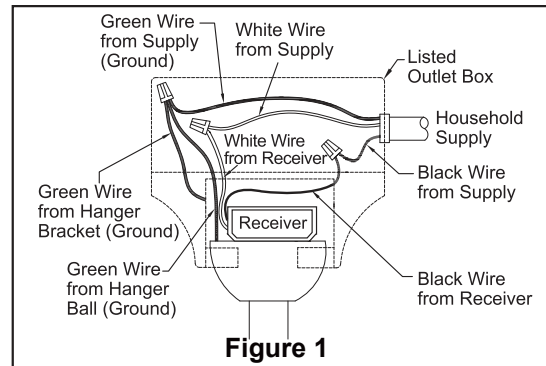

Figure 1
- ☐ After all connections have been made, carefully push the connected wires into the outlet box. Ensure that the white and green (ground) wires are positioned on one side of the box and the black (hot) wire is positioned on the opposite side, as shown in Figure 1
- 3. Tighten the first shoulder screw, then attach and secure the second shoulder screw. (See Figure 1)